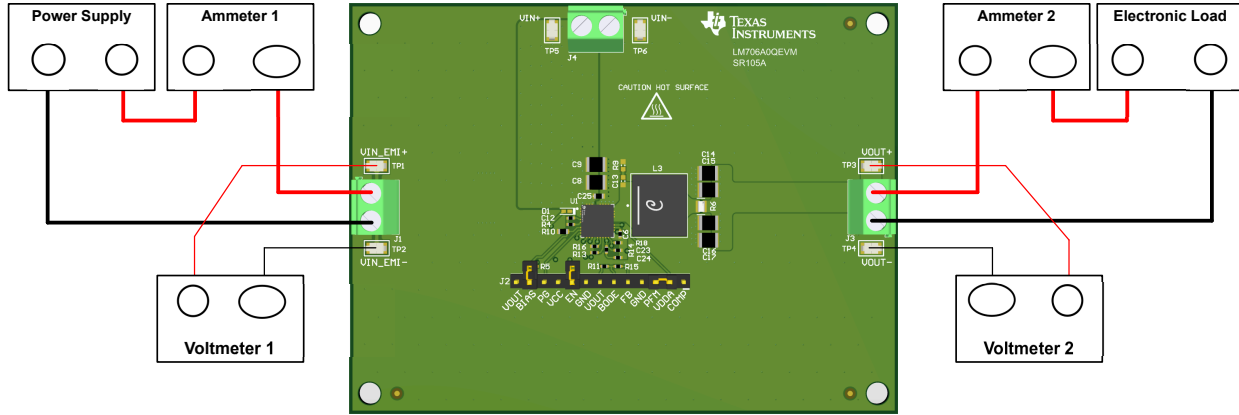

Figure 2-1. EVM Test Setup
Referencing the EVM connections described in Table 2-1, the recommended test setup to evaluate the LM706A0-Q1 is shown in Figure 2-1. Working at an ESD-protected workstation, make sure that any wrist straps, boot straps, or mats are connected and referencing the user to earth ground before handling the EVM.
1. Prior to connecting the DC input source, set the current limit of the input supply to 0.1A maximum. Make sure the input source is initially set to 0V and connected to the VIN+ and VIN– connection points as shown in Figure 2-1.